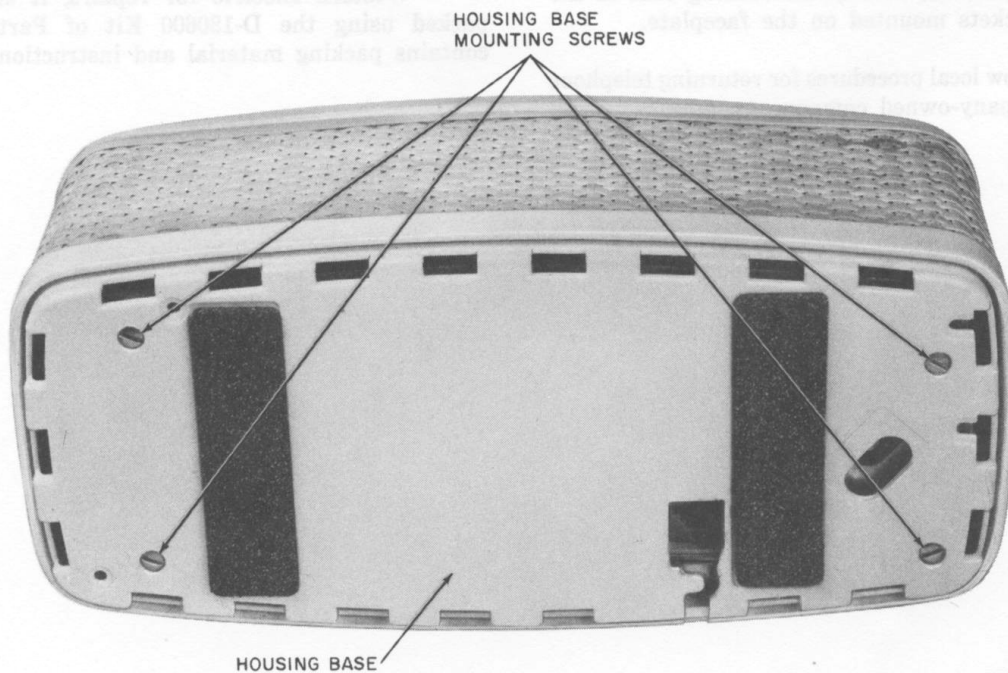

Fig. 3—Removing Plastic Housing Base (921A, 921B, 2921A, 2921B Telephone Set)
- (1) Remove housing, refer to Fig. 3.
- (2) Loosen dial mounting screws.
- (3) Remove dial.
(1) Remove handset cord and mounting cord from the telephone set.
(2) Remove the four screws on the bottom of the plastic base and withdraw the base. Refer to Fig. 3.